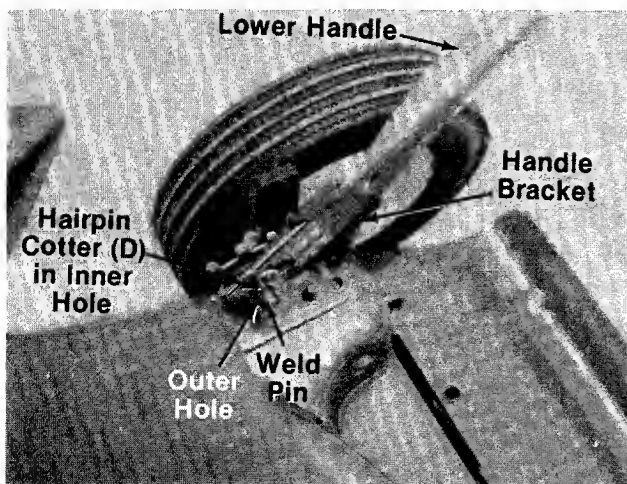

**FIGURE 3.**
- A. Line up the upper slotted hole in lower handle with the mounting hole on deck. Place shoulder bolt (A) through lower handle and deck. See figure 3. Place belleville washer (B) on the shoulder bolt, with the cupped side of the washer against the deck. Secure with hex lock nut (C).